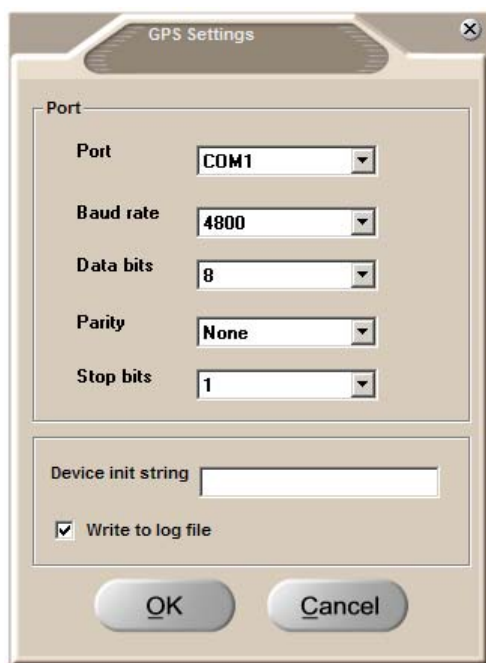

Figure 3-76: GPS Settings
- Step 4 Under "Port," select the port number which was viewed under the Device Manager (Figure 3-76).
- Step 2 Click the "Write to log file" checkbox (Figure 3-76). All following measurements will now have their corresponding GPS location saved in this file.